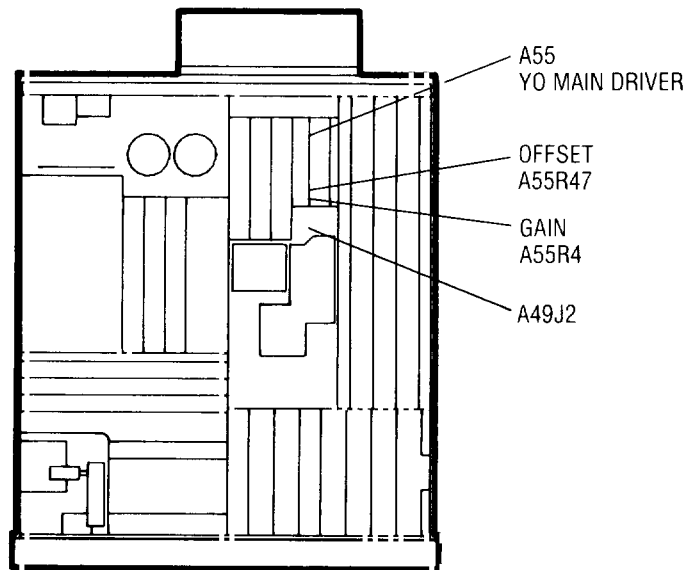

Figure 5-16. YO Main Driver A55 Adjustments Location
4. Adjust A55R47 (OFFSET, Figure 5-16) for an indication of 2.3 GHz $\pm$ 1 MHz on the Frequency Counter.
6. Adjust A55R4 (GAIN, Figure 5-16) for an indication of 6.999 GHz $\pm$ 1 MHz on the Frequency Counter.